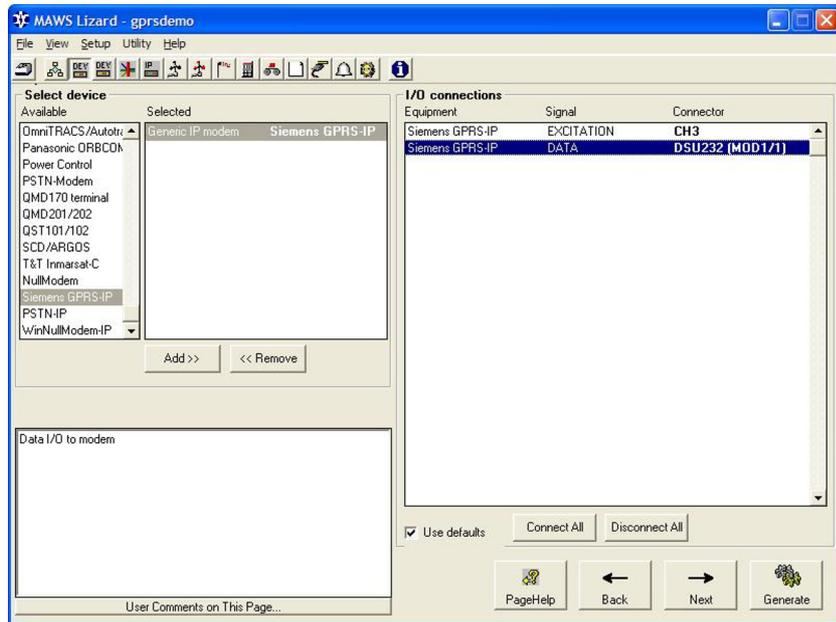

Figure 141 Connecting GSM/GPRS Modem
- b. In the **Communication devices** view, add the modem **Siemens GPRS-IP** as shown in Figure 141 on page 302.